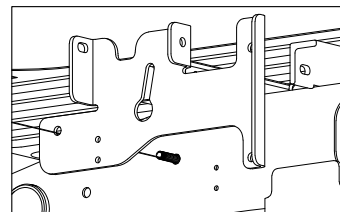
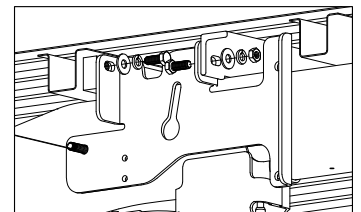

Figure C5: View from outside of Driver Side Frame.
Figure C6: View from outside of Driver Side Frame.
3. **Install the sideplates.** Next, while the fish wire is still attached to the carriage bolt, thread the length of the fish wire through the mounting hole on the sideplate, see figure C5. Next attach the sideplate to the front and rear crossmembers using 1/2" hardware as shown in figure C6.